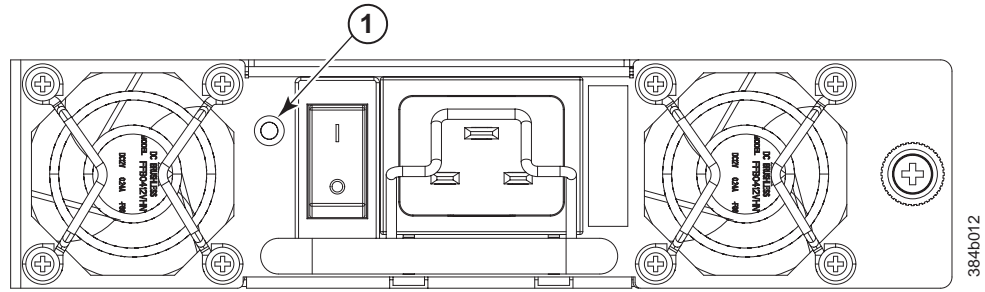

Figure 27. Power supply
1. Check the LED indicator on the power supply (see Figure 27 on page 55). The LED patterns may temporarily change during POST and other diagnostic tests; for information about how to interpret the LED patterns, see Table 13 on page 55.